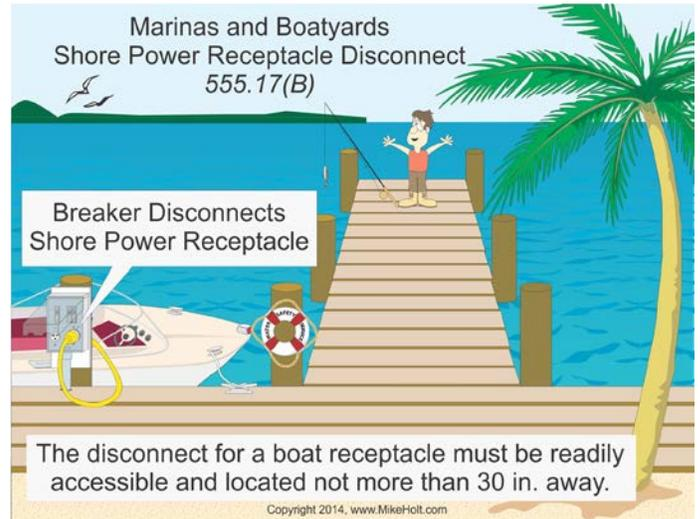

Figure 555-15
(B) Location. The disconnecting means for shore power receptacles must be readily accessible and located not more than 30 in. from the receptacle it controls. Circuit breakers or switches located in marine power outlets can be used for the boat receptacle disconnecting means. Figure 555-15